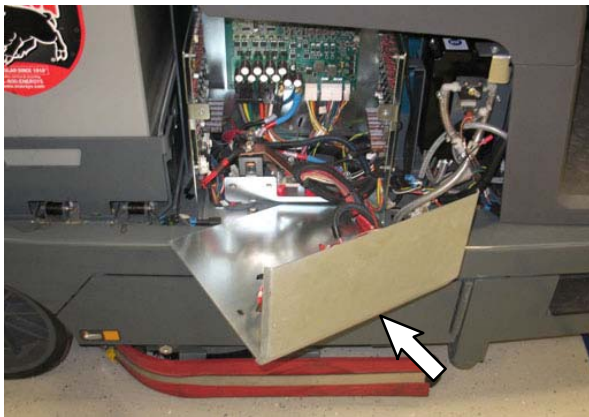

FIG. 2
10. Carefully remove the electrical enclosure cover from the electrical enclosure and position as shown. **Do Not** break or damage wires/wire connections when removing the electrical enclosure cover from the electrical enclosure. (Fig. 1/Fig. 2)